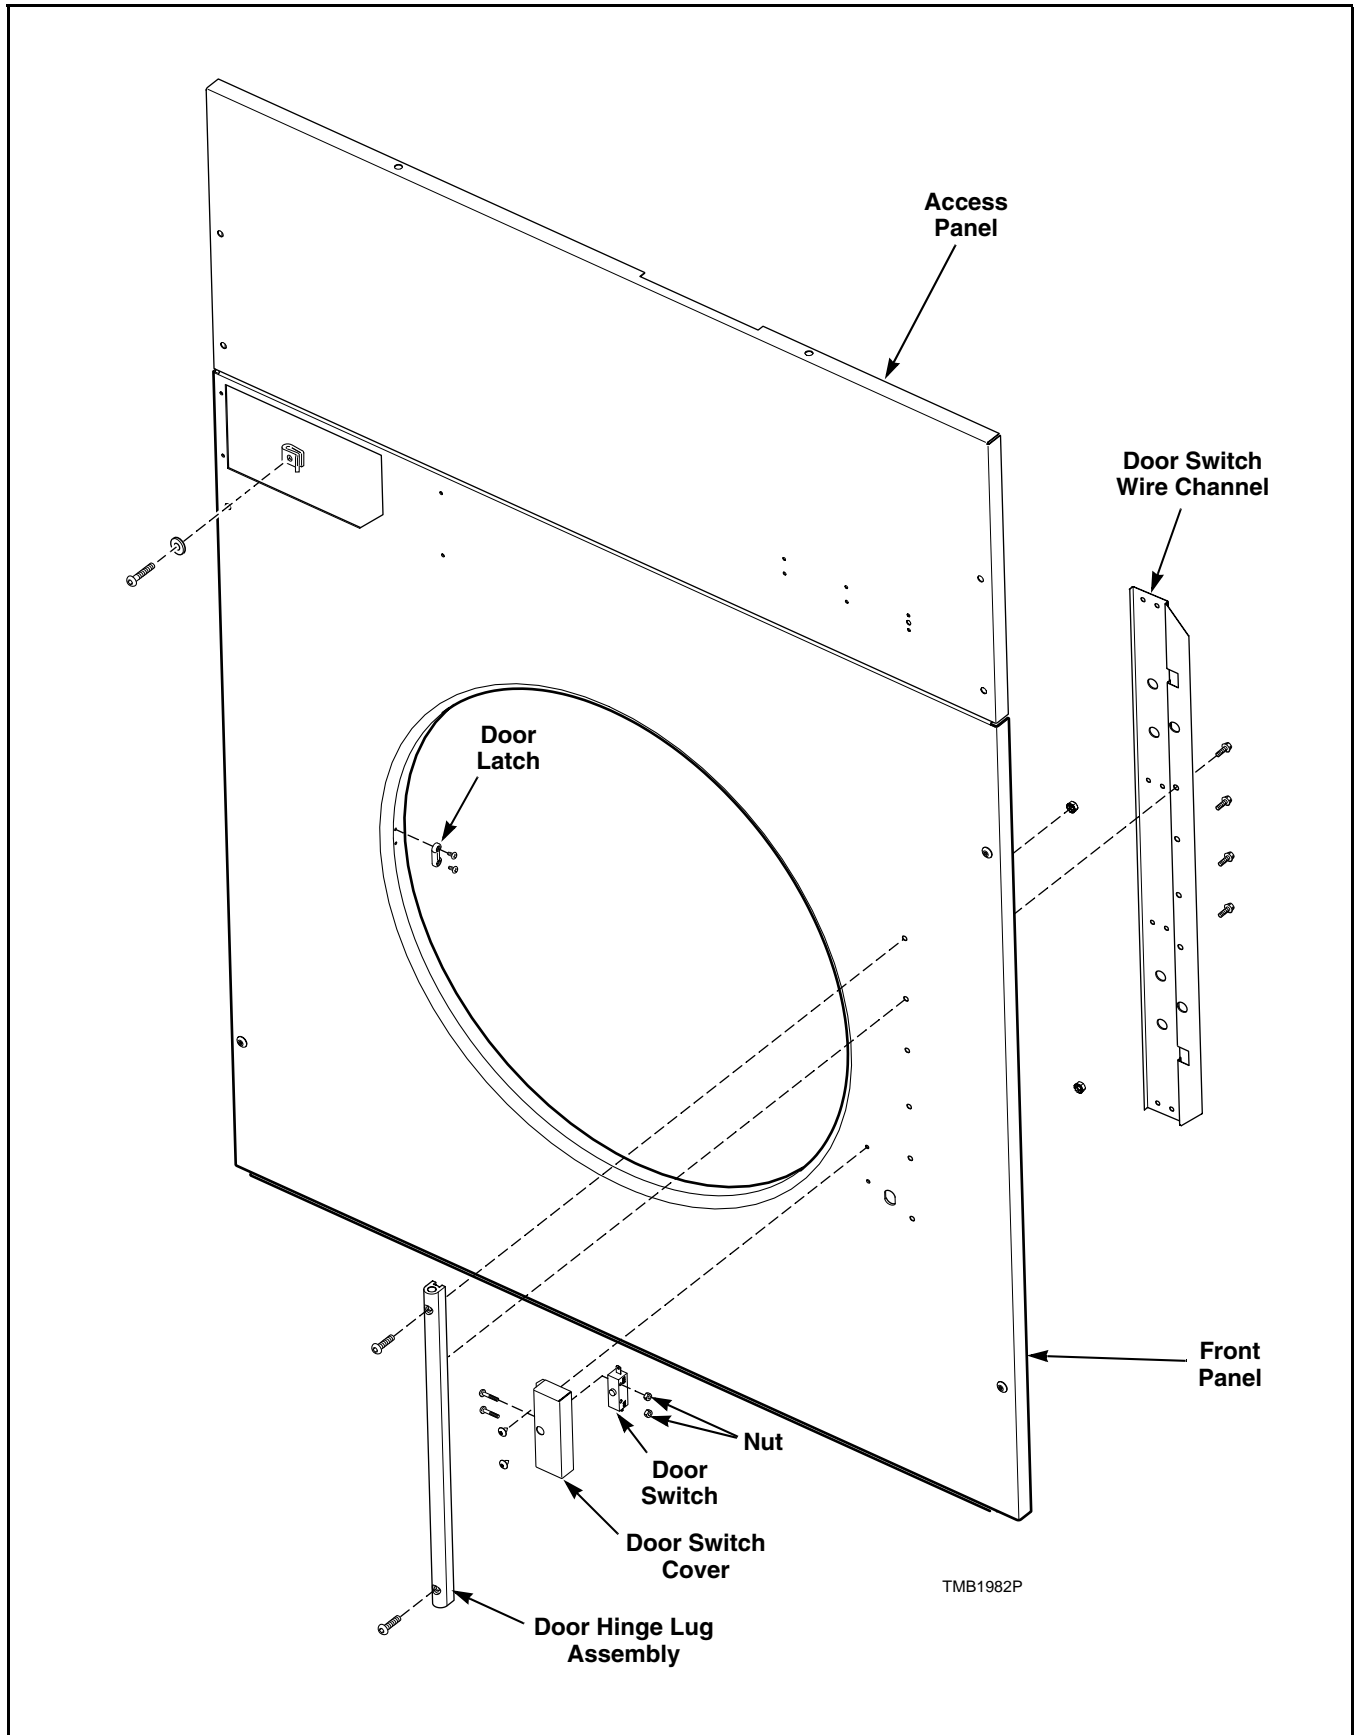

Figure 6
Refer to *Figure 6*.
- k. Remove four screws securing front panel to cabinet frame. Pull front panel forward, disconnecting door switch harness plug at upper right corner of front panel to frame. Refer to *Figure 6*.